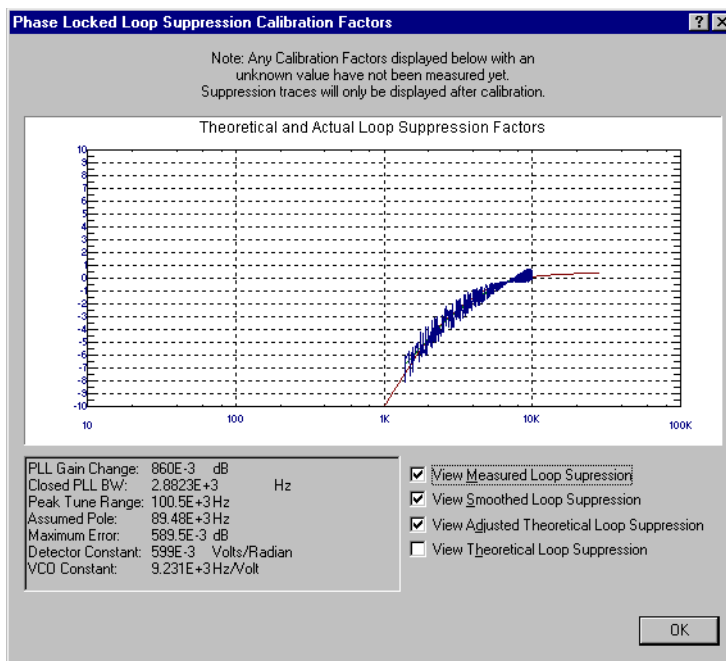

Figure 7-43 Selecting Suppressions
- 2 When the PLL Suppression Curve dialog box appears, select **View Measured Loop Suppression**, **View Smoothed Loop Suppression**, and **View Adjusted Loop Suppression**. See Figure 7-43.